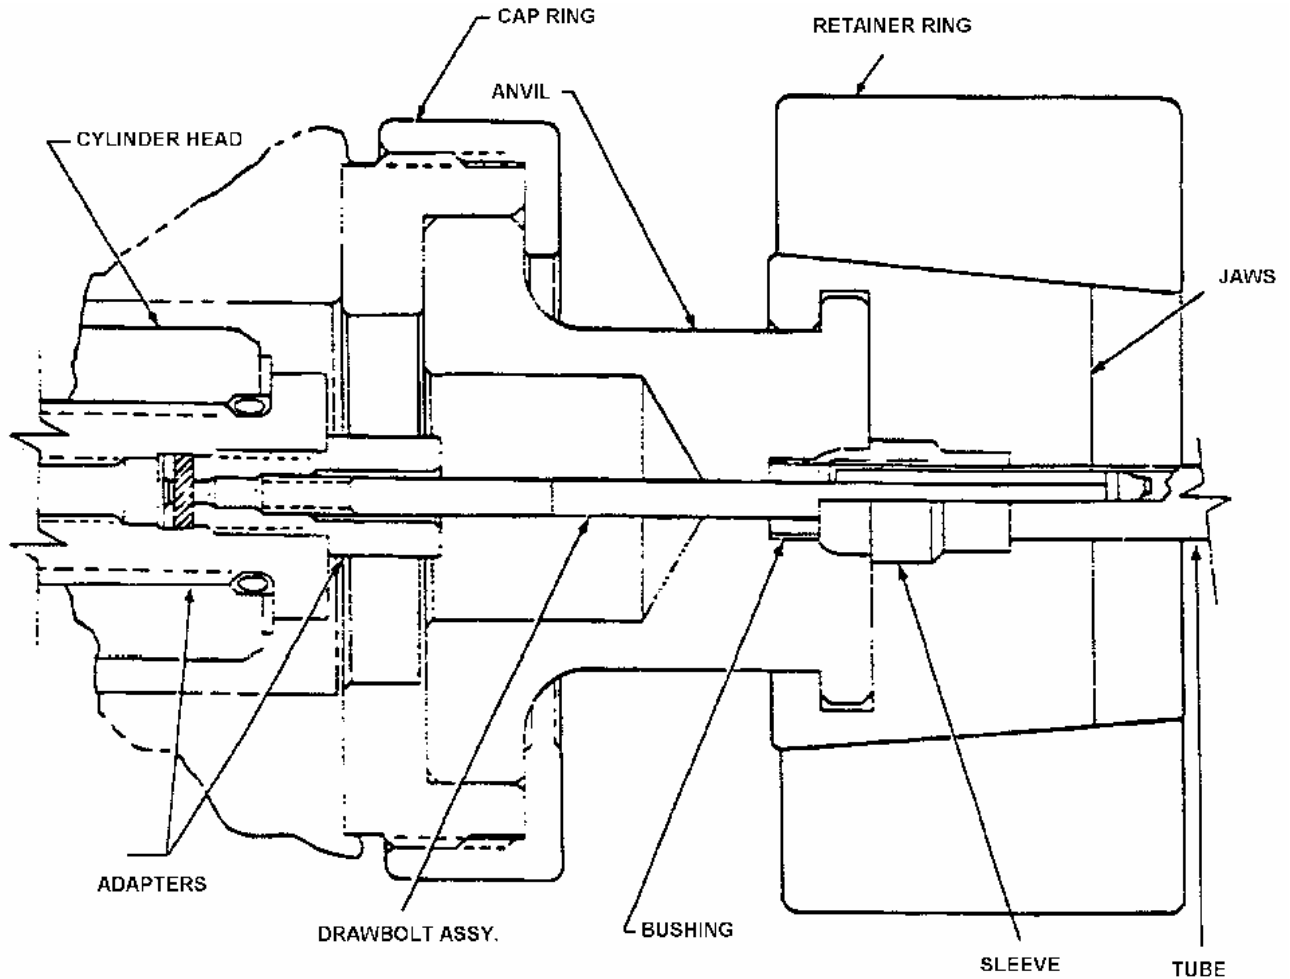

Figure 3. Cross Section View of Swager Assembly, Model 5175
7. **External Tools.** The anvil, jaws, and retaining ring are classified as external tools and are shown in Figures 3 (model 5175) and 4 (model 5720). External tools enclose the tubing for swaging.